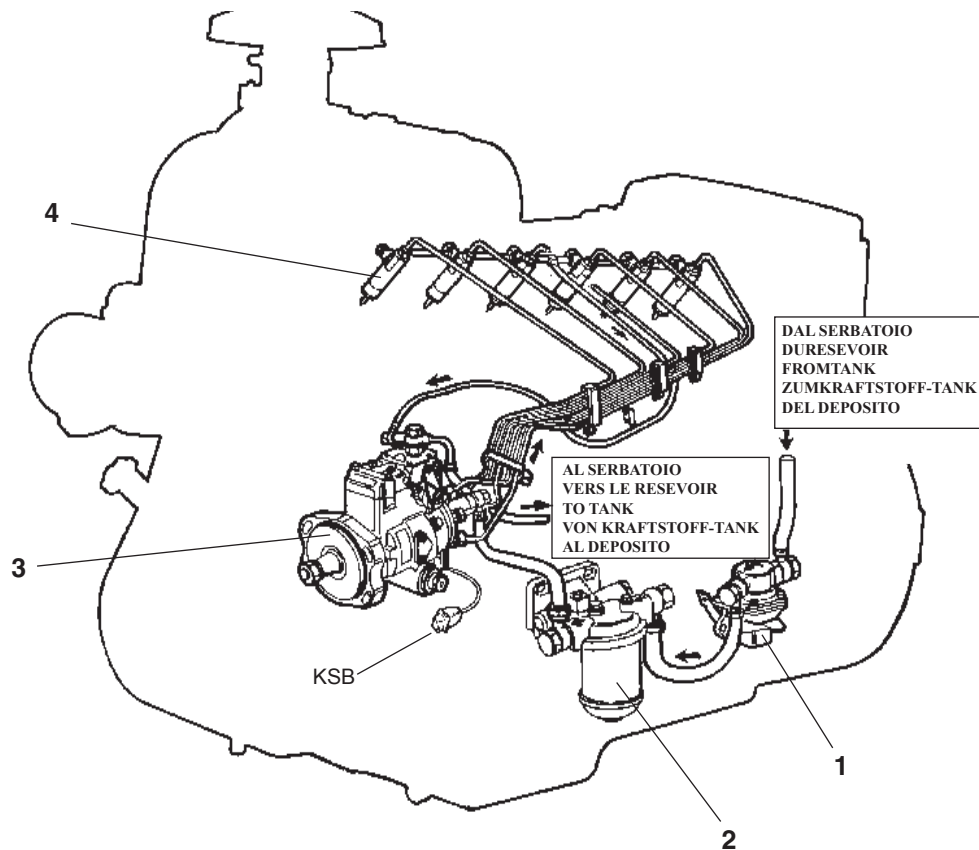

Fig. 2.2 - Abb. 2.2
2.3 CIRCUITO COMBUSTIBILE**(FIG. 2.2) 4-6 cilindri**
2.3 CIRCUIT D'ALIMENTATION**(FIG. 2.2) 4-6 cylindres**
2.3 FUEL CIRCUIT**(FIG. 2.2) 4-6 cylindres**
2.3 KRAFTSTOFFANLAGE**(ABB. 2.2) 4-6 Zylinder**
(FIG. 2.2) 4-6 cilindros